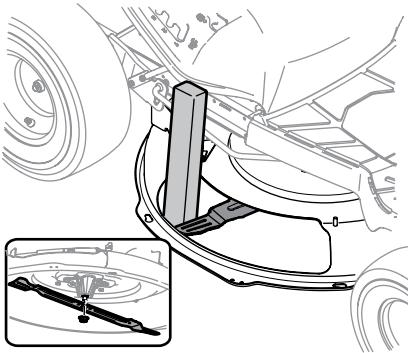

Figure 4-10
2. Using a block of wood or 2 x 4, insert it into the deck opening and rotate the blade around until it wedges the wood between the deck opening and the cutting blade, as shown in Figure 4-10.